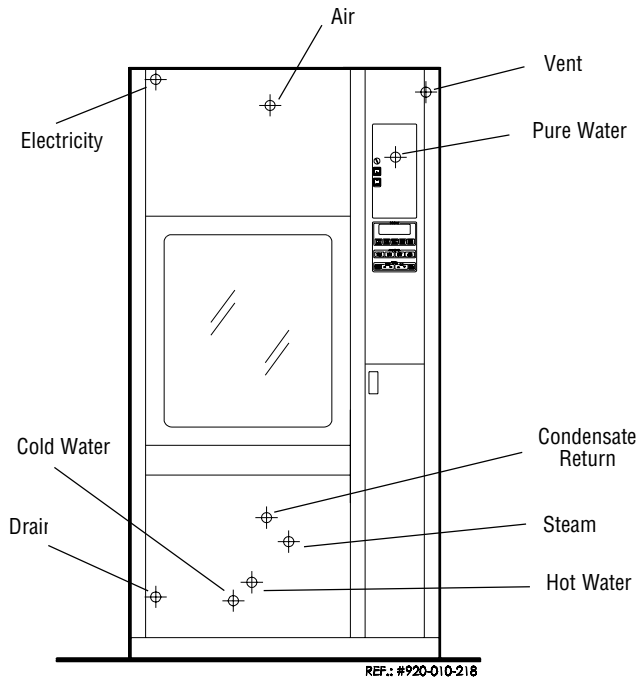
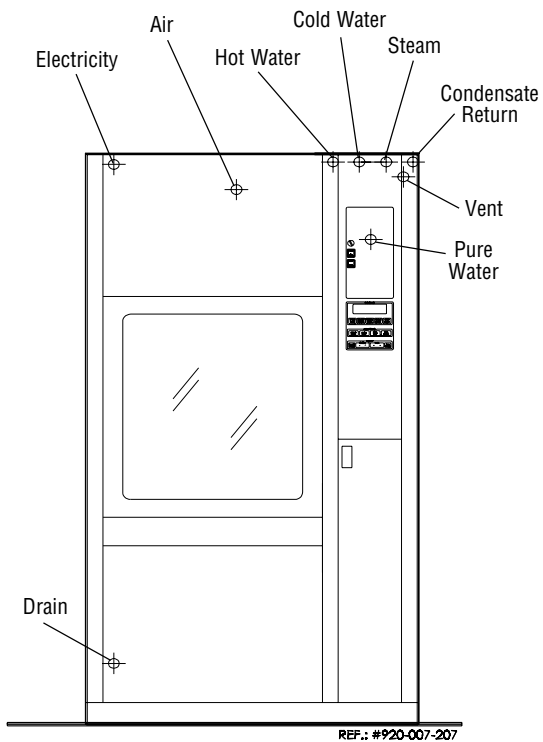
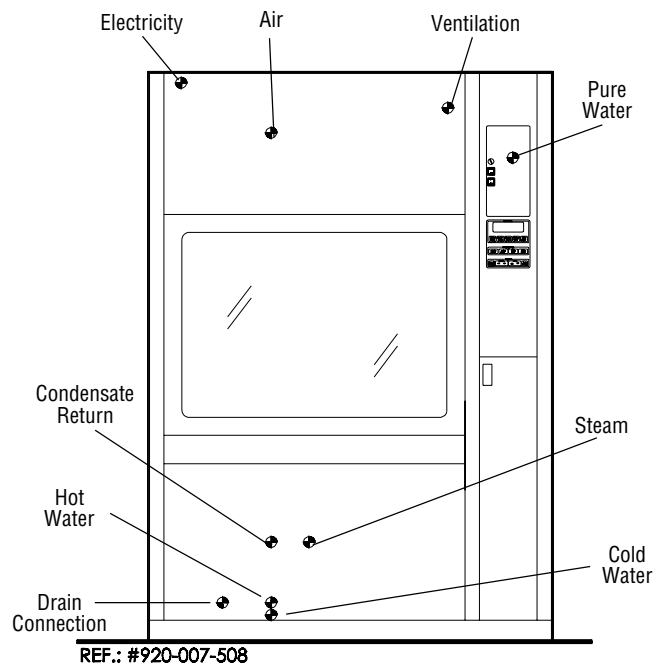

Figure 3-1. Model 400 Utility Connections
Figure 3-2. Model 450 Utility Connections
Figure 3-3. Model 500 Utility Connections
NOTE: If Reliance 450/450 - International: All connections are on top of unit, except for the drain. See Figure 3-2 for connection location.
6. Connect the following building supply lines to the unit (see Figure 3-1 for **Model 400**, Figure 3-2 for **Model 450** and Figure 3-3 for **Model 500**).